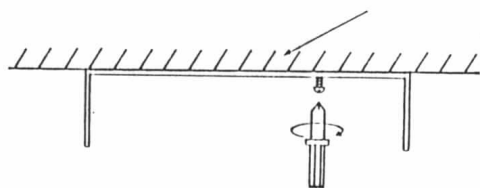

Figure 4
6. For setting the amp under the dash board panel of automobile with an attached mobile mounting bracket(option), please refer to Figure 4 and 5.
① Set the bracket to the dash board panel.